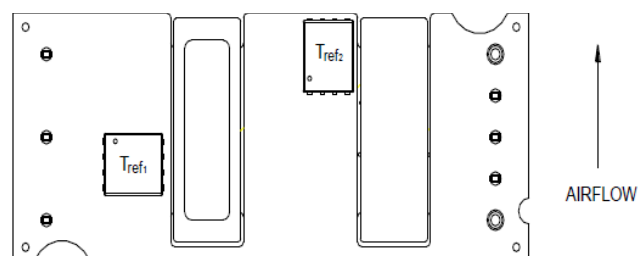
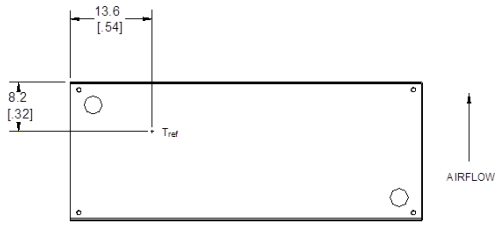

Figure 13.  $T_{\text{ref}}$  Temperature Measurement Locations for Open Frame Module.
Figure 14. Tref Temperature Measurement Location for Module with Heatplate.
To provide protection under certain fault conditions, the unit is equipped with a thermal shutdown circuit. The unit will shutdown if the thermal reference point,  $T_{ref}$ , exceeds 135°C (Figure 13, typical) or 120°C (Figure 14, typical), but the thermal shutdown is not intended as a guarantee that the unit will survive temperatures beyond its rating. The module will Overtemperature Protection automatically restart upon cool-down to a safe temperature.
The thermal reference point,  $T_{\text{ref1}}$  and  $T_{\text{ref2}}$  used in the specifications for open frame module is shown in Figure 13. For reliable operation this temperature should not exceed 124°C and 121°C respectively.
The thermal reference point,  $T_{\text{ref}}$ , used in the specifications for modules with heatplate is shown in Figure 14. For reliable operation this temperature should not exceed 98 °C.